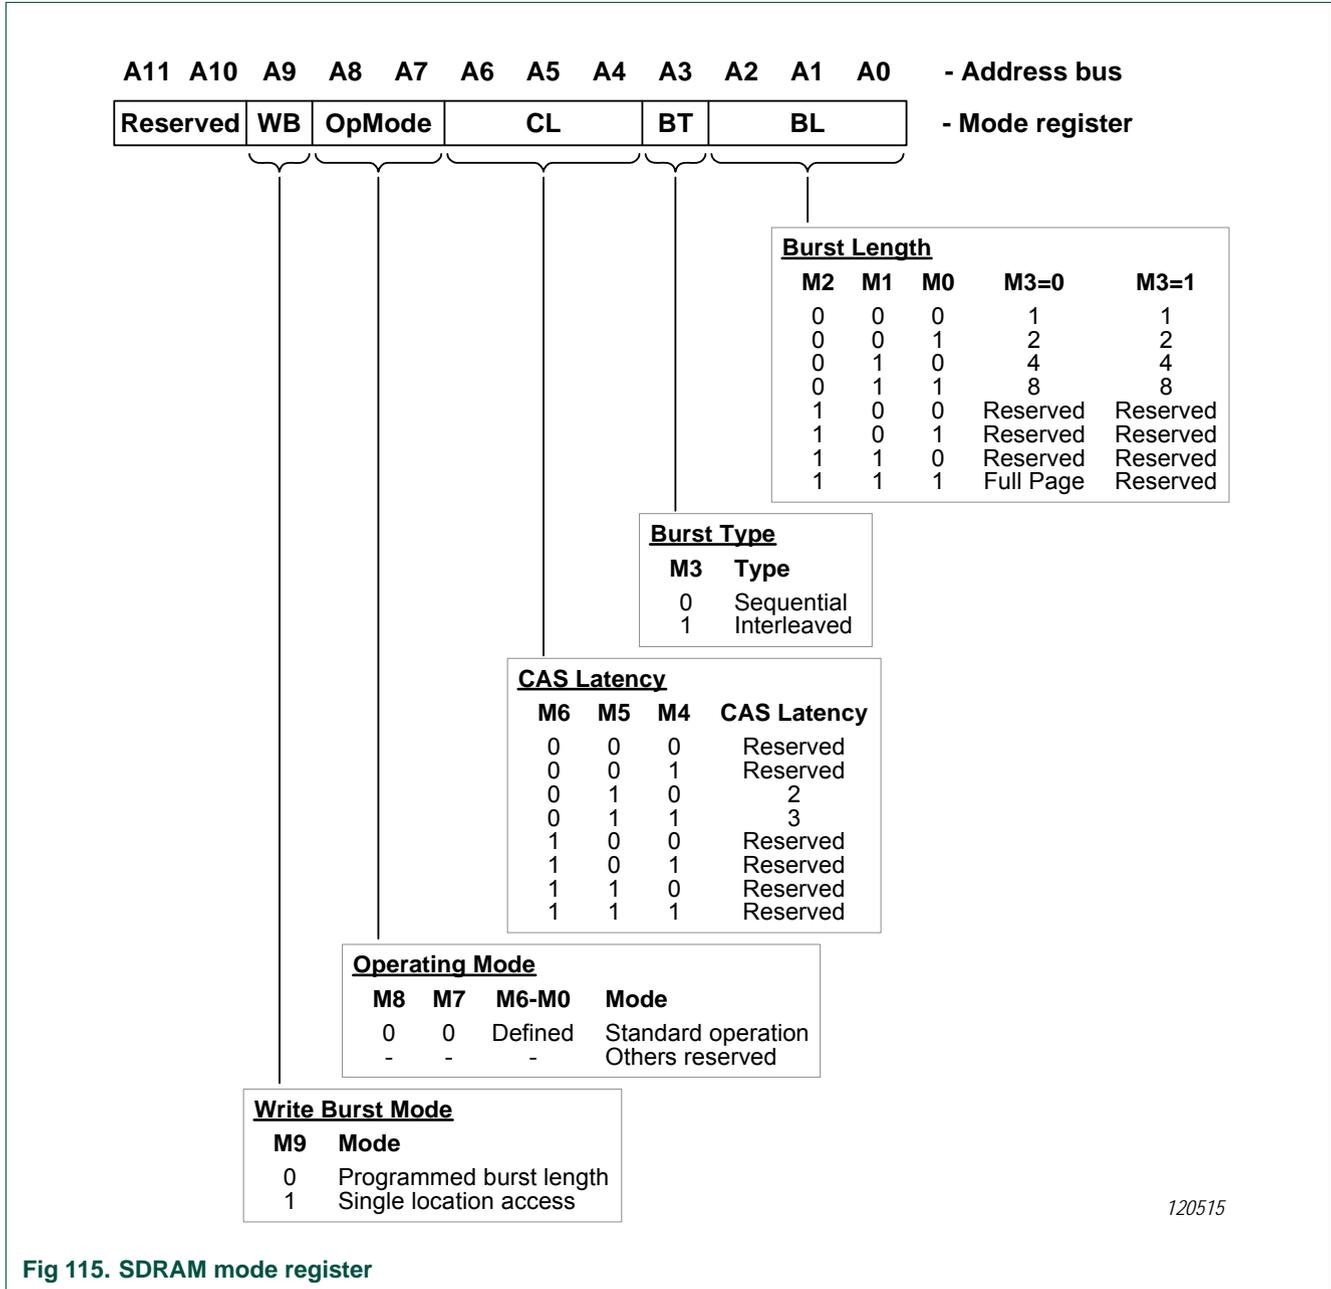

Fig 115. SDRAM mode register
When using the EMC with SDRAM, the SDRAM devices must be configured appropriately for the EMC. This includes setting up the SDRAMs for a 128-bit sequential burst. The burst configuration is done through a mode register in the SDRAM memory. Figure 115 shows the layout for a JEDEC standard SDRAM mode register.
- Mode register value, based on information from both the SDRAM data sheet, as in Figure 115, and the EMC. In this example, the value will be 0x23. This represents a programmed burst length, CAS latency of 2, sequential burst type, and a burst length of 8, as described in Section 33.5.